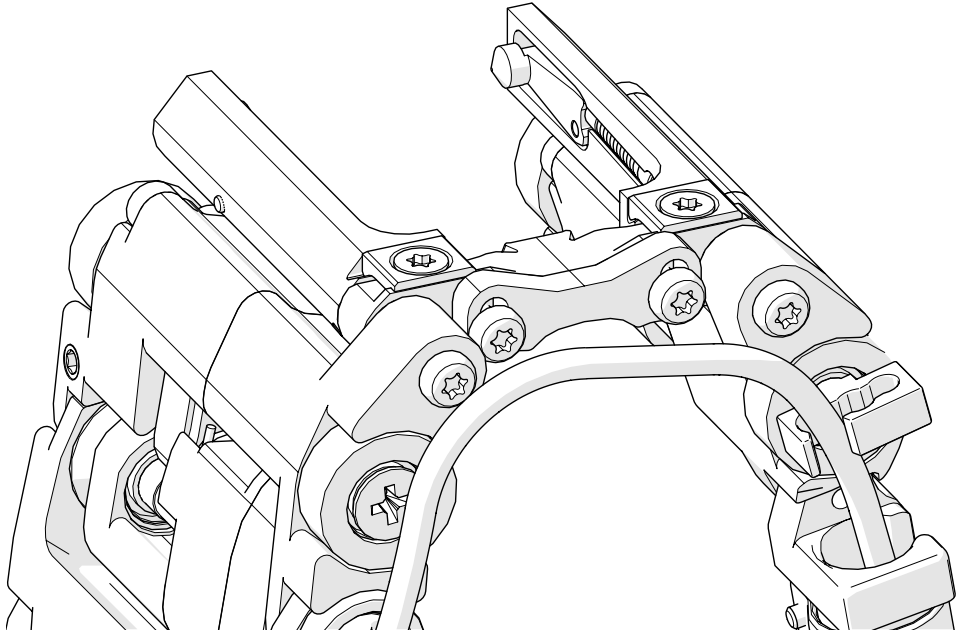

Fig. 52 - Fold scanner
3. Fold the scanner as illustrated (Fig. 52).